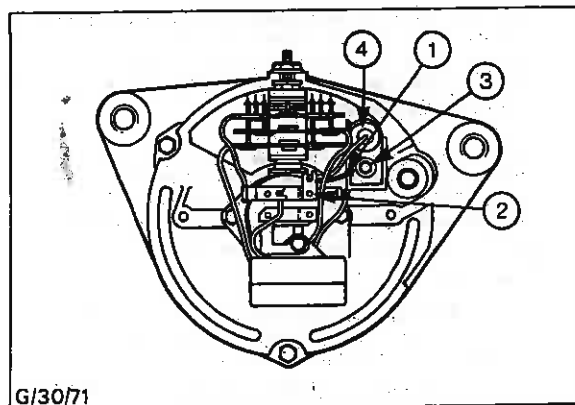

Fig. 9 - Removing Surge Diode
3. Disconnect the lead (1), then remove screw (2) securing the surge diode lead. Remove screw (3) and detach surge diode (4) - see Fig. 9.